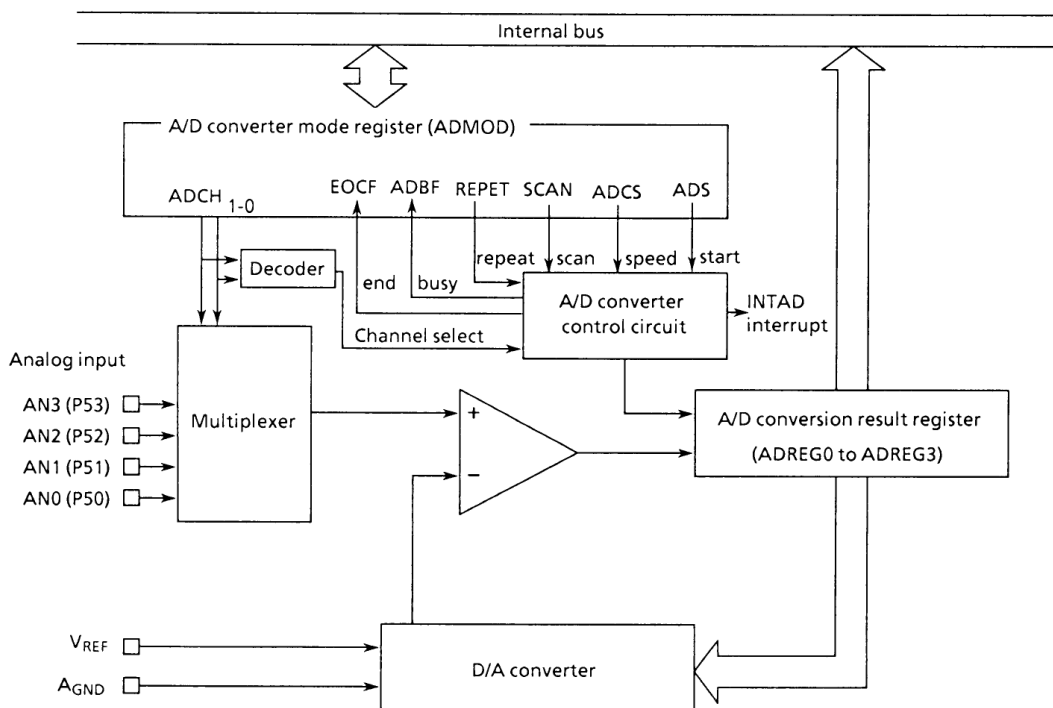

Figure 3.12 (1). Block Diagram of A/D Converter
Figure 3.12 (1) shows the block diagram of the A/D converter. The 4-channel analog input pins (AN3 to AN0) are shared by input-only P5 and so can be used as input port.